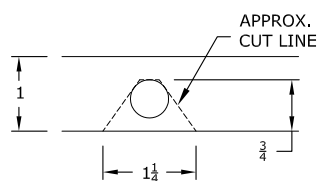

FIGURE A3
6. **Mark the 4" hole location.** Using a tape measure hooked over the rear edge of the bed (at tailgate end), measure the location for the hole as shown in figure A3. Next, locate the center of the bed by measuring the distance between the wheel wells and dividing by two. The center of the hole will be at the intersection of the center of the bed and the first distance measured.
8. **Modify bed flange.** Cut a notch in the bed flange just above the frame in the passenger side rear wheel. Locate the 7/16" hole in this flange above the axle and enlarge the hole by removing the metal below the hole so that a notch is created, See figure A3 & A4. This will allow the rear cross member to be installed.